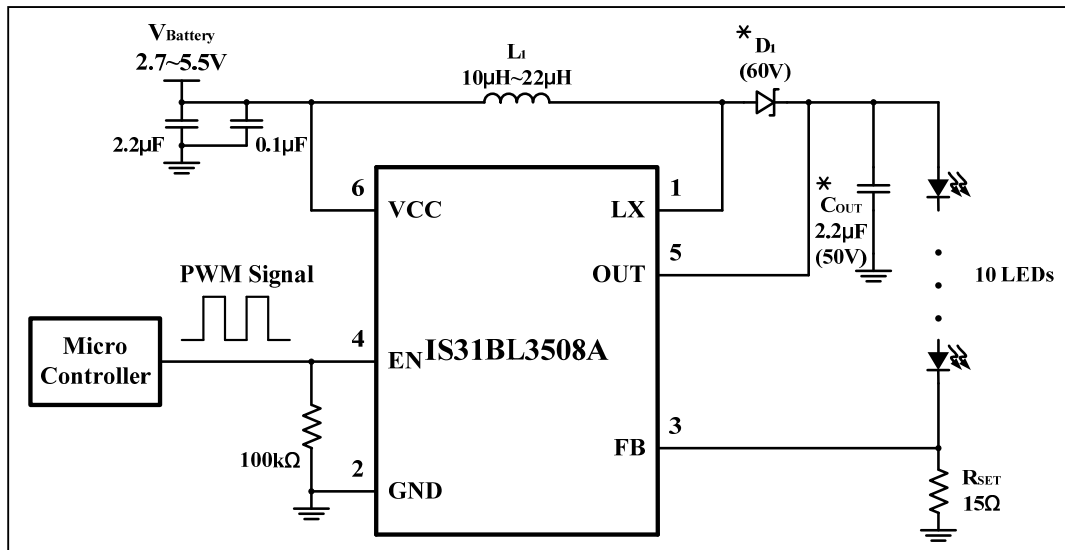

Figure 1 Constant current white LED driver using PWM at the EN pin to control intensity
The choice of the inductor value will affect the performance of the device. Large value inductors will reduce the current ripple in the inductor, thus reducing output voltage ripple. However large value inductors of the same current rating, typically also have larger DC resistance, thus reducing the system efficiency. For example in Figure 1, the loads are 10 WLEDs and output current is 20mA. The maximum input current can reach 600mA. For this application a 10μH 700mA inductor is sufficient.
When the IS31BL3508A is used for LED driving applications (Figure 1), the LED current flows through the external feedback resistor R_{SET} to regulate the LED current. The internal feedback regulation point is 0.3V. The maximum LED current may be calculated by the following Equation (1).
The EN pin of the IS31BL3508A can accept a PWM signal to implement LED dimming (Figure 1). LED current may be computed using the following Equation (2).